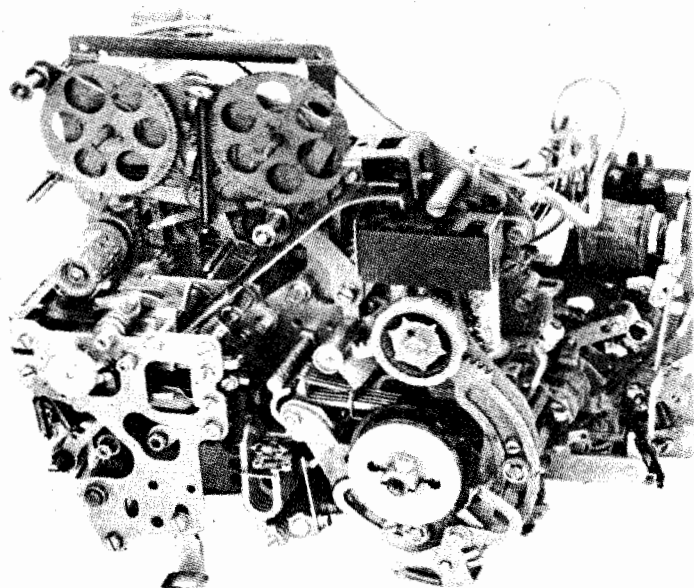

Figure 1 - Typical 35 Typing Reperforator (Front View)
1.01 This section provides adjustments and requirements for the 35 typing reperforator (Figure 1). It is reissued to include recent engineering changes and additions. Since this is a general revision, marginal arrows ordinarily used to indicate changes and additions have been omitted.